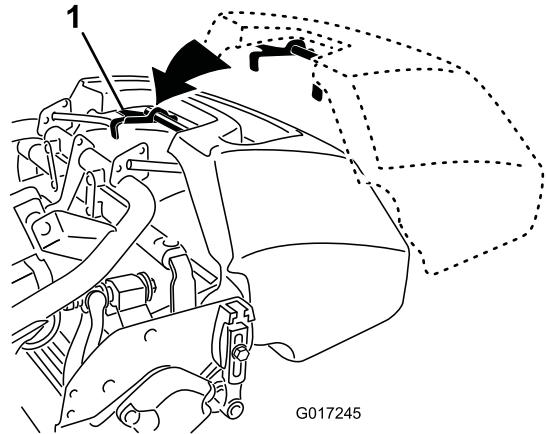

Figure 19
1. Grasp the basket by the handle (Figure 19).
2. Guide the basket lip between the cutting unit side plates and over the front roller (Figure 19).
3. Install the basket hooks over the frame loop (Figure 19).